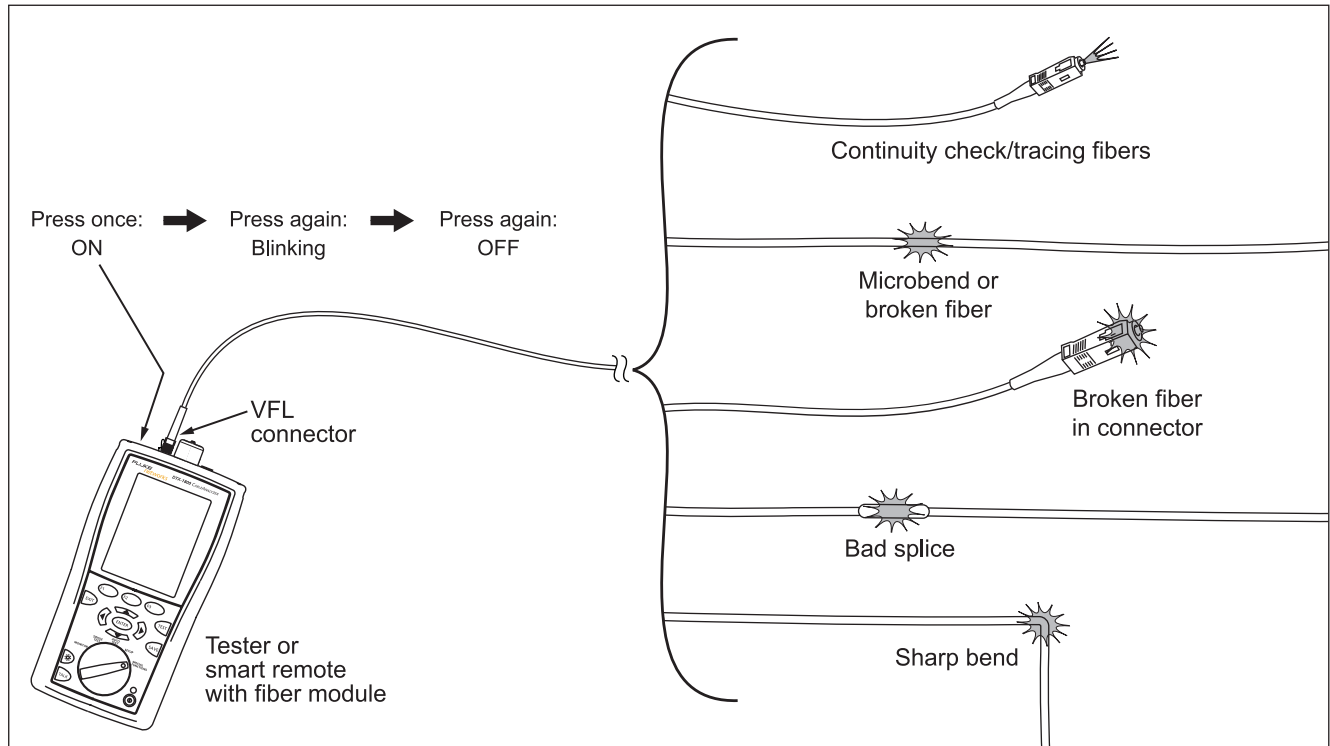

Figure 8-2. Using the Visual Fault Locator
- 3 Turn on the visual fault locator by pressing the button near the VFL connector, as shown in Figure 8-2. Press again to switch to flashing mode. Press again to turn off the locator.
- 4 Look for the red light to locate fibers or faults, as shown in Figure 8-2.